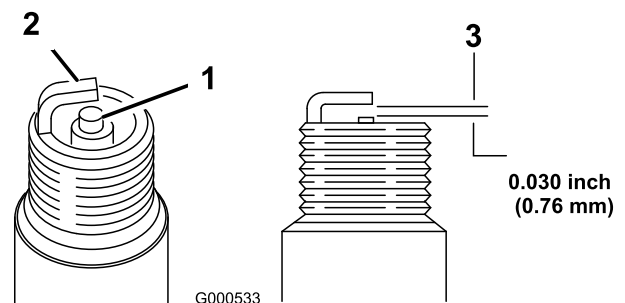

Figure 27
11. Set the gap on the plug to 0.76 mm (0.030 inch) as shown in **Figure 27**.